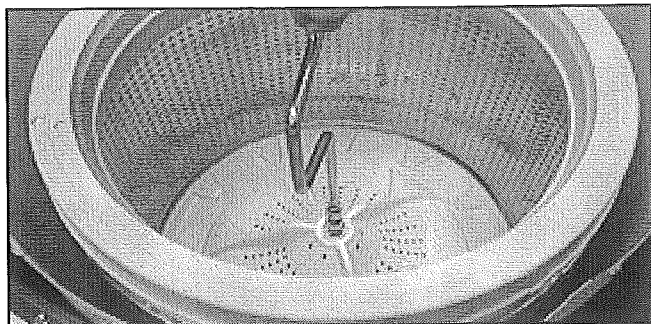

FIGURE 3
6. Remove 7/16" bolt. Lift and remove basket assembly with wash plate/agitator. See *Figure 3*.